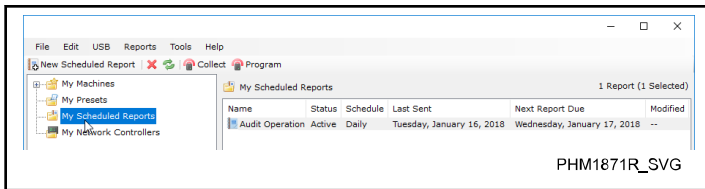

Figure 38
1. In the tree view, click **My Scheduled Reports**. Refer to *Figure 38*.
2. From the list of available scheduled reports, double-click the report you would like to edit. Refer to *Figure 38*.